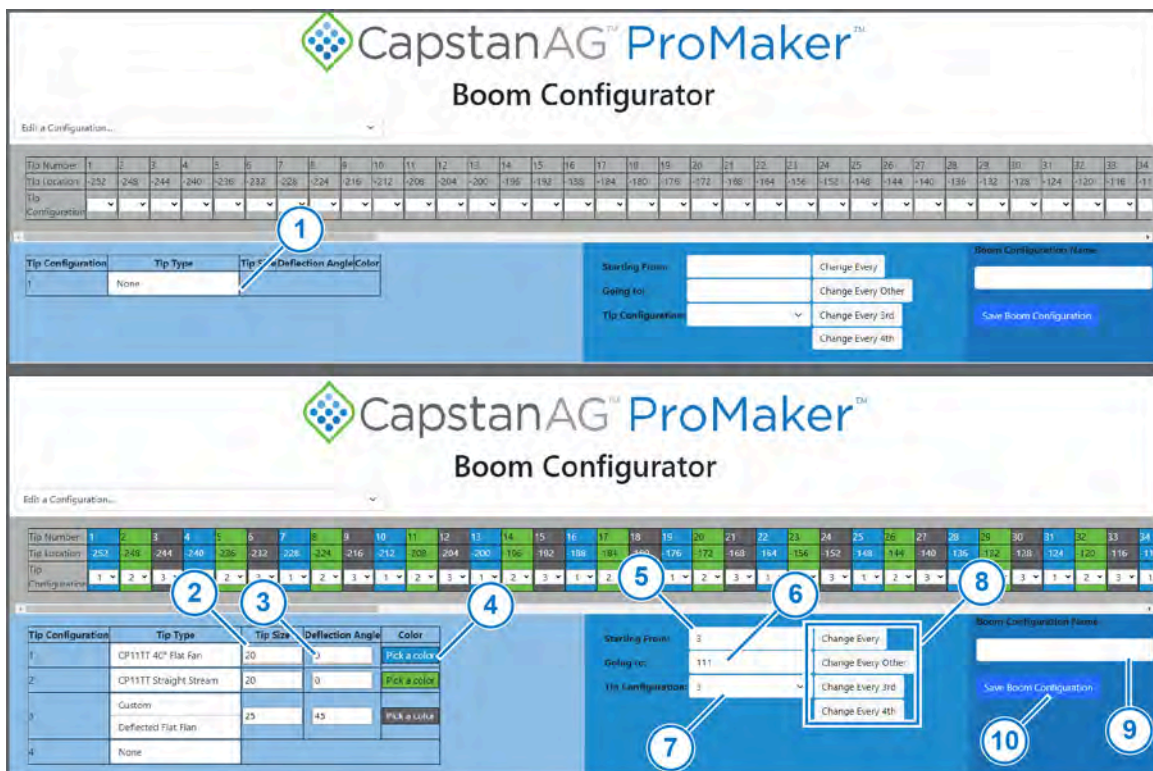

Figure 7: Boom Configurator
3. Click on the box (Figure 7, Item 1) below **Tip Type**.
5. Click on the box (Figure 7, Item 2) below **Tip Size**.
7. Click on the box (Figure 7, Item 3) below **Deflection Angle**.
9. If desired, click on **Pick a color** (Figure 7, Item 4).
- a) Click in the box (Figure 7, Item 5) next to **Starting From:** and enter the starting tip number.
- b) Click in the box (Figure 7, Item 6) next to **Going to:** and enter the ending tip number.
- c) Click in the box (Figure 7, Item 7) next to **Tip Configuration:** and enter the correct tip configuration list on the left side of the page.
- d) Select which tips to change from the list (Figure 7, Item 8):
13. Click on the **Boom Configuration Name** box (Figure 7, Item 9) and enter the desired name of the configuration.
14. Click **Save Boom Configuration** (Figure 7, Item 10).